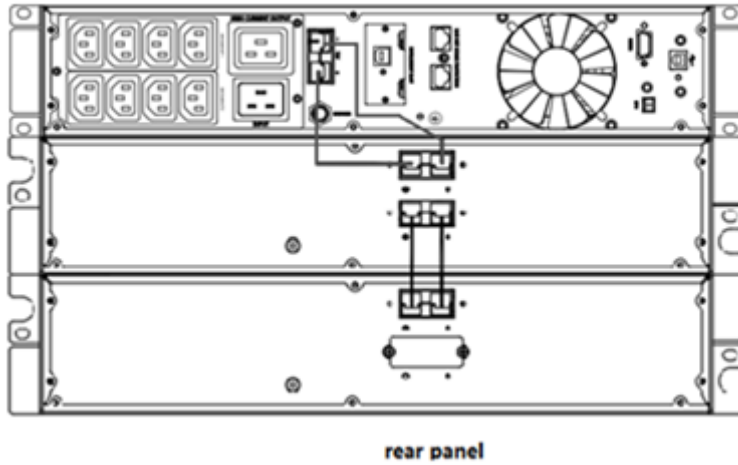

Figure10 - Typical EBP Installation
c) For the bottom (or only) EBP, remove the EBP cable knockout on the top of the EBP front cover. See Figure 10 for the location of the top EBP cable knockout.
d) If you are installing more than one EBP, for each additional EBP remove the EBP cable knockout on the top and bottom of the EBP front cover. See Figure 10 for the location of the EBP cable knockouts.
e) Plug the EBP cable(s) into the battery connector(s) as shown in Figure 10. Up to four EBPs may be connected to the UPS. Connect black to black, Press the connector tightly together to ensure a proper connection.